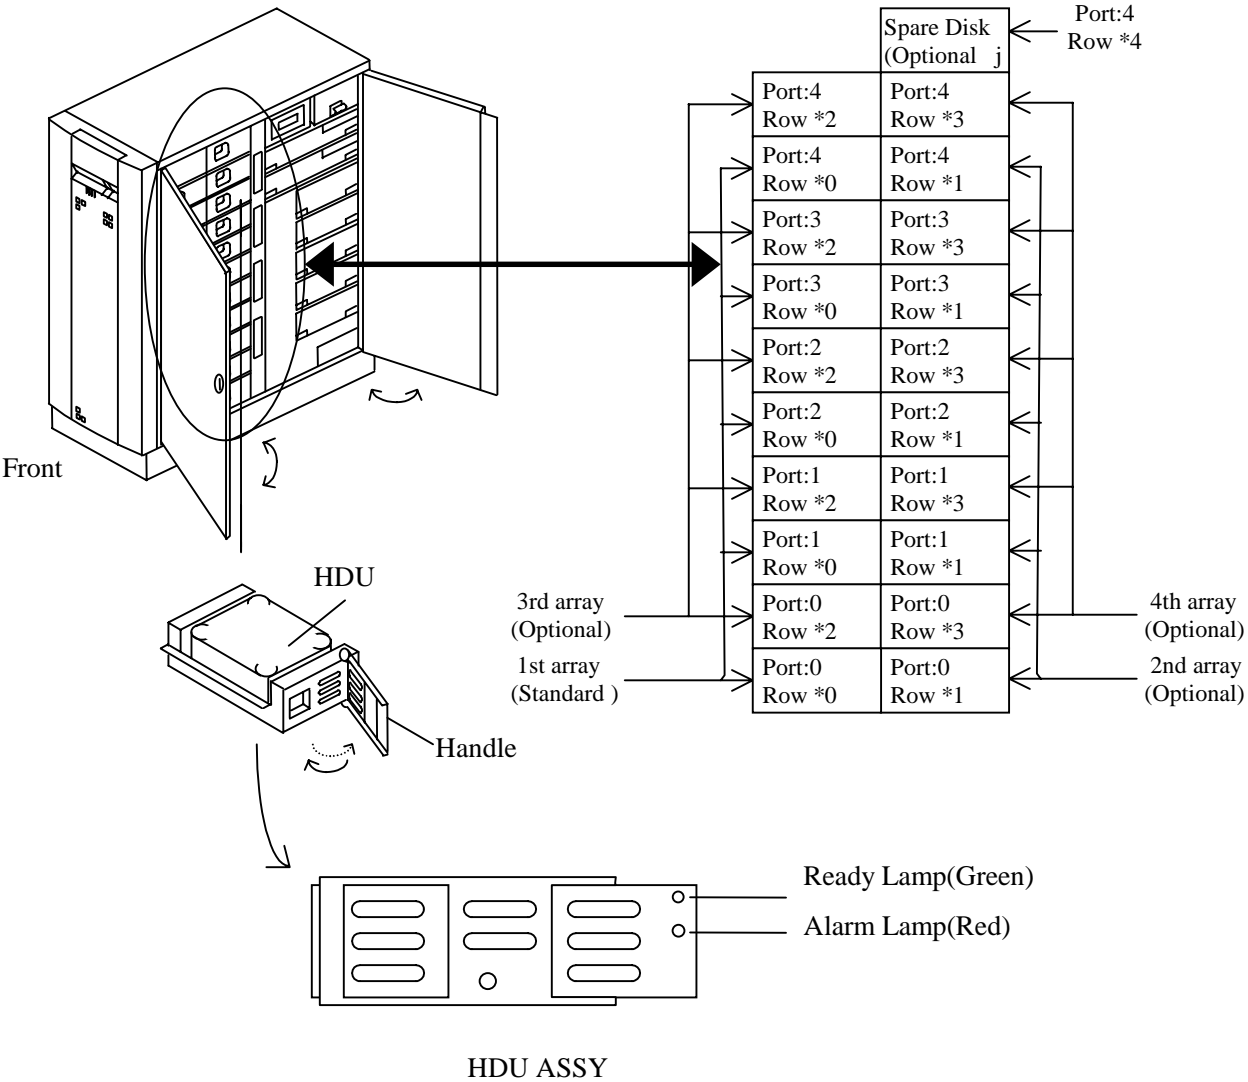

Figure4.4.3 Replacing HDU ASSY
(1) Installing HDU ASSY (See Figure 4.4.3)